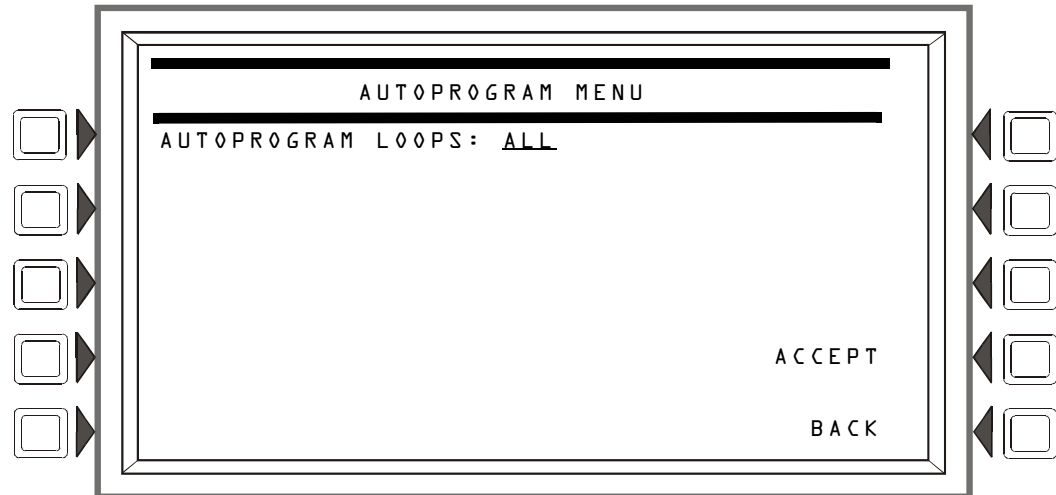

Figure 3.57 Autoprogram Menu Screen
3. Press the **AUTOPROGRAM LOOPS** soft key and enter the desired SLCs (loops **1+2** in this example) in the Autoprogram Menu screen (Figure 3.57)